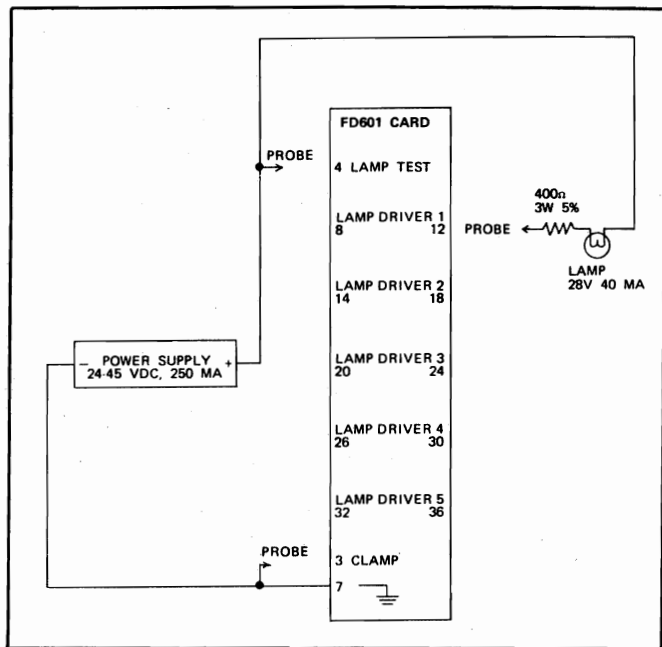

FIG. 13-59. TEST CIRCUIT FD601 CARD. E-19646
1. Connect test circuit to the FD601 card shown in Fig. 13-59.